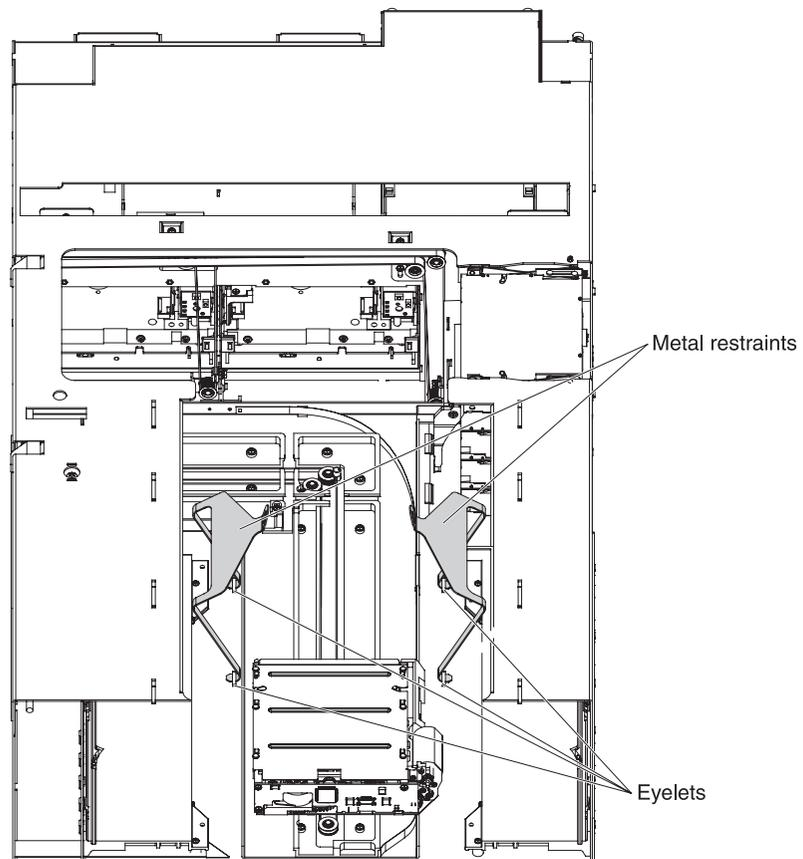

Figure 7. Installing the metal restraints
3. Install the metal restraints through the chassis eyelets, as shown in Figure 7.